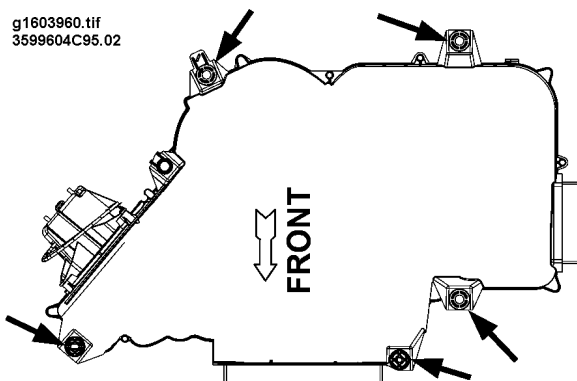

Figure 60 Rear HVAC Unit Mounting Bolt Locations
12. Remove 5 bolts securing housing to floor (Figure 60).
4. Without damaging the foam air seals, position the rear HVAC unit to align the holes for the mounting bolts (Figure 60).